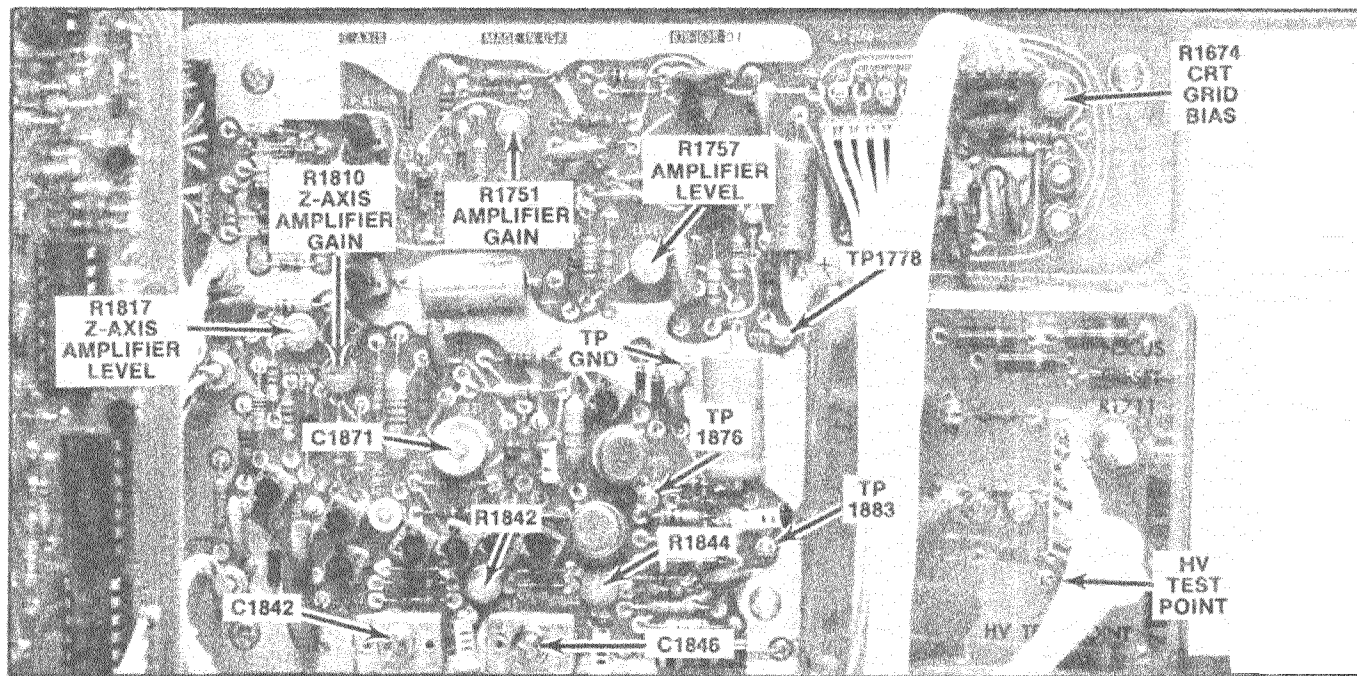

Fig. 5-2. Location of Z-Axis dc level and transient response adjustments and test points.
- Set the dc voltmeter (vom) to measure at least —3000 volts and connect it between the HV Test Point, and chassis ground. See Fig. 5-2 for test point location.
f. Connect the probe tip to TP1876; connect the probe ground to chassis ground with a short grounding strap. See Fig. 5-2 for location.
h. Adjust—Z-axis Amplifier Level, R1817, for a dc level of +9 volts (4.5 divisions above ground level). See Fig. 5-2 for adjustment location.
i. Connect the dc voltmeter (vom) between TP 1778 and chassis ground. See Fig. 5-2 for location.
k. Adjust—Focus Amplifier Level, R1757, for a meter reading of +123 volts. See Fig. 5-2 for adjustment location.
m. Adjust—Crt Grid Bias, R1674, so that the trace on the crt screen is just extinguished. See Fig. 5-2 for adjustment location.
- r. Adjust—Z-Axis Amplifier Gain, R1810, for a pulse waveform peak amplitude of 74 volts above the ground reference level. See Fig. 5-2 for adjustment location.
- b. Connect the test oscilloscope 10X probe tip to TP 1883; connect the probe ground to chassis ground TP located in the middle of the Z-Axis circuit board. See Fig. 5-2 for test point location.
- f. Adjust—C1871 for flat top and R1842, C1842, R1844, and C1846 for optimum square corner on the displayed pulse (use low-capacitance screwdriver to adjust variable capacitors). See Fig. 5-2 for adjustment location.
h. Adjust—R1842 and C1842 for optimum square corner at 1.5 divisions of displayed pulse. See Fig. 5-2 for adjustment location.
j. Adjust—R1844 and C1846 for optimum square corner at five divisions of displayed pulse. See Fig. 5-2 for adjustment location.